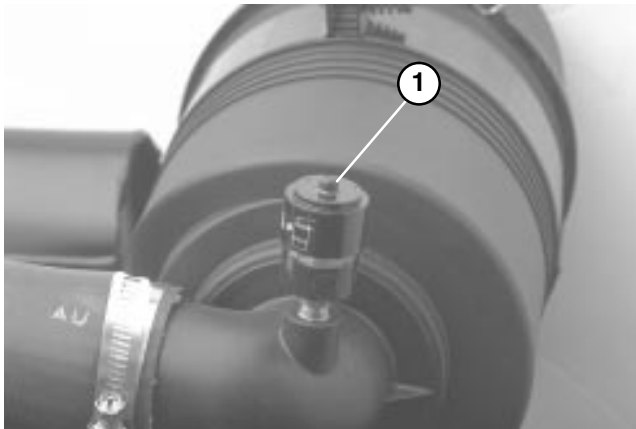

Figure 40
2. Service the air cleaner filters when ever air cleaner indicator (Fig. 40) shows red or every 400 hours (more frequently in extreme dusty or dirty conditions). Do not over service air filter.
7. Reset indicator (Fig. 40) if showing red.